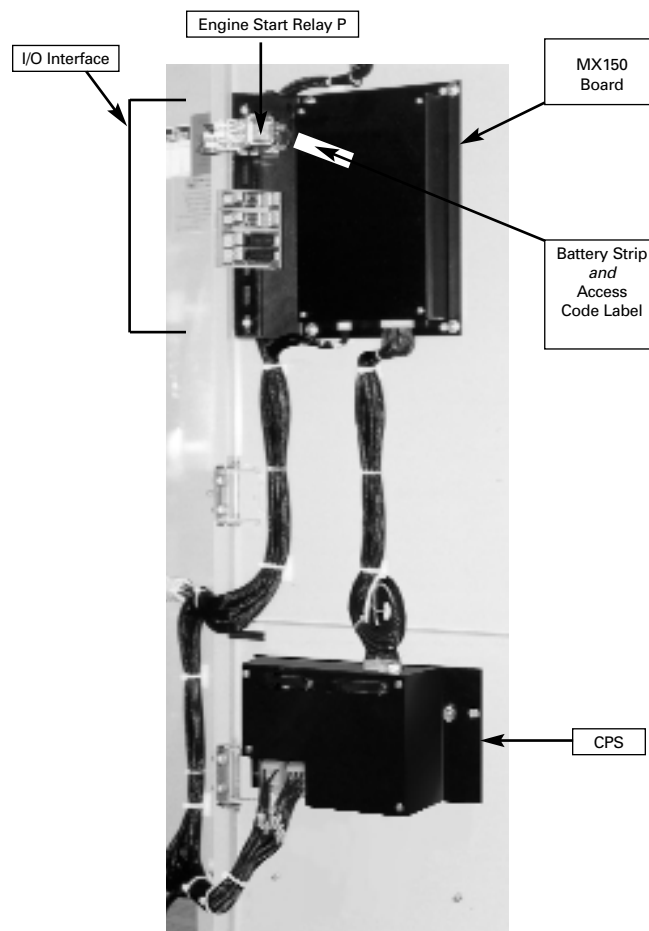

Figure 6
- A. MX150 Board - Customer Input and Output (I/O) for system interface. Located on the left hand side of the back of the unit (see figure 6)
Contains transformers which drop line voltage to control level for controller input and SCR inputs (see figure 6).